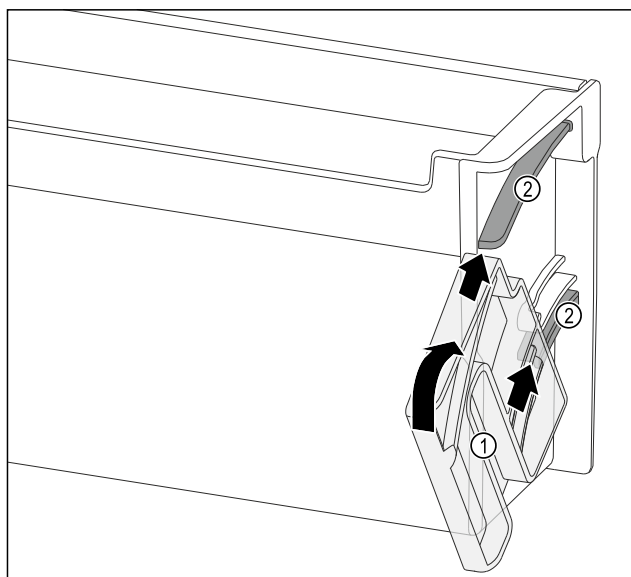

Fig. 148
- Position the swivel unit Fig. 148 (1) so that the recesses are exactly opposite the guide channels Fig. 148 (2) of the door racks.
- Turn the swivel unit Fig. 148 (1) in the specified direction.